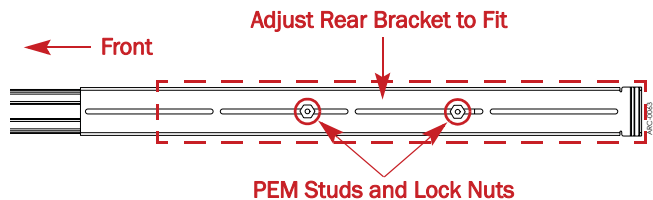

Figure 3. Outside Rail Adjustment for 30" Rack
- b. Move the **rear bracket** so that the PEM studs are in different slots (Figure 3) based on the rack size.